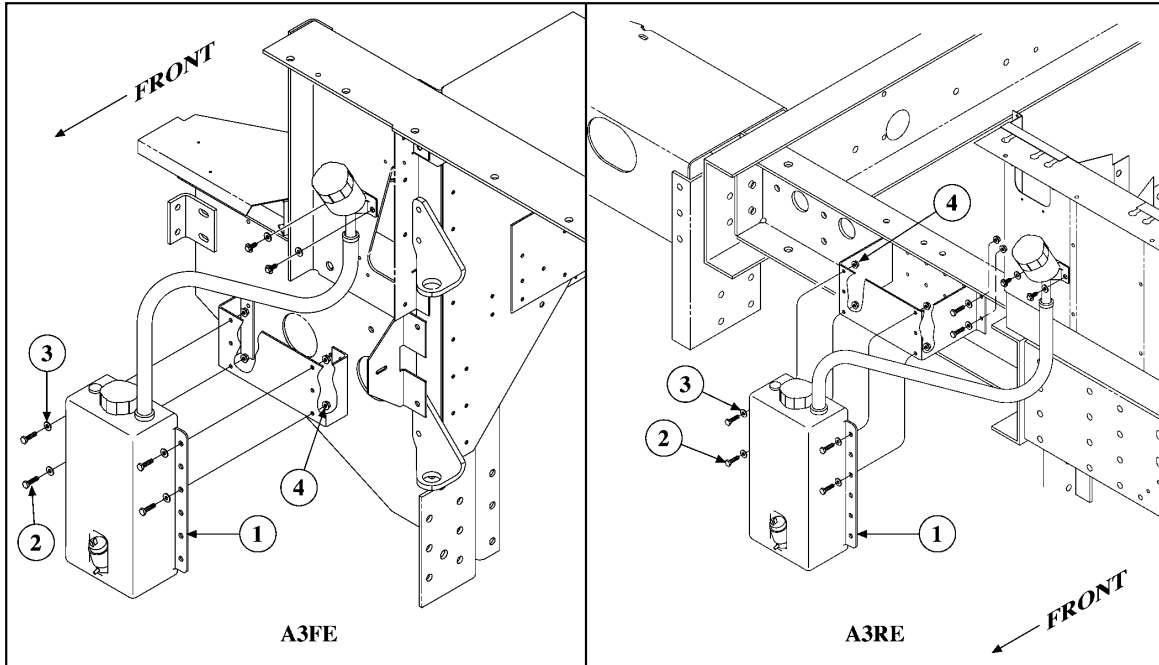
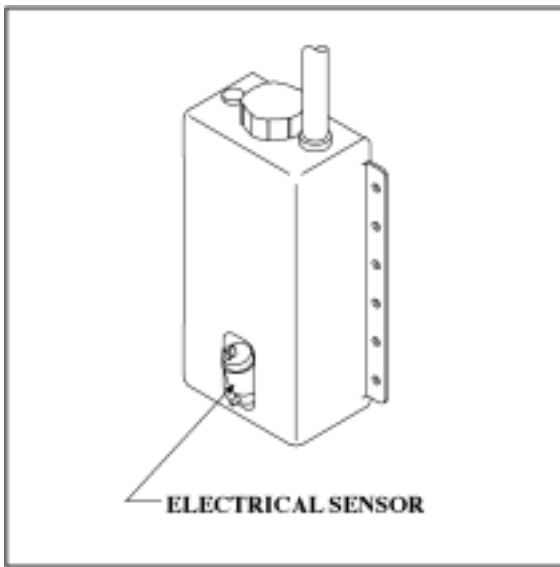
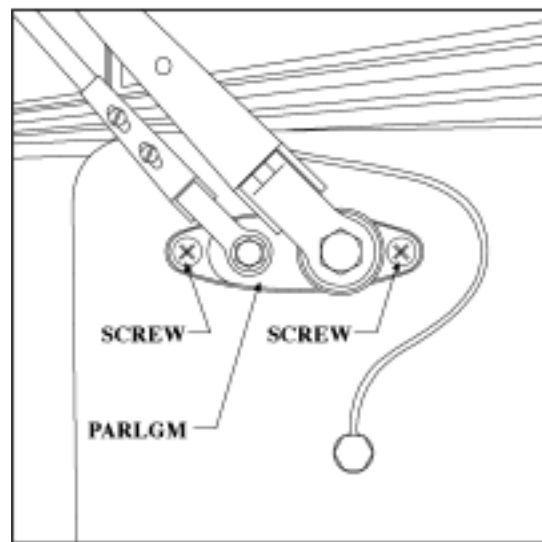

Figure 2—Windshield Wiper Reservoir Location
Figure 3—Electrical Sensor
Figure 4—Wiper Parlgm
2. See Figure 2—Windshield Wiper Reservoir Location
3. See Figure 3—Electrical Sensor
4. See Figure 4—Wiper Parlgm
2. Remove plastic hose from reservoir (1). **Figure 2—Windshield Wiper Reservoir Location.**
3. Disconnect the sensor from the reservoir. **Figure 3—Electrical Sensor.**
4. Remove the reservoir (1).
7. Remove two screws from the parlgm. **Figure 4—Wiper Parlgm.**
1. Install reservoir (1) using capscrew (2), washer (3) and nut (4) to mount bracket. **Figure 2—Reservoir Mounting Bracket Location.**
3. Connect plastic hose to reservoir (1).
4. Connect sensor to reservoir (1). **Figure 3—Electrical Sensor.**
7. Install two screws to the parlgm. **Figure 4—Wiper Parlgm.**